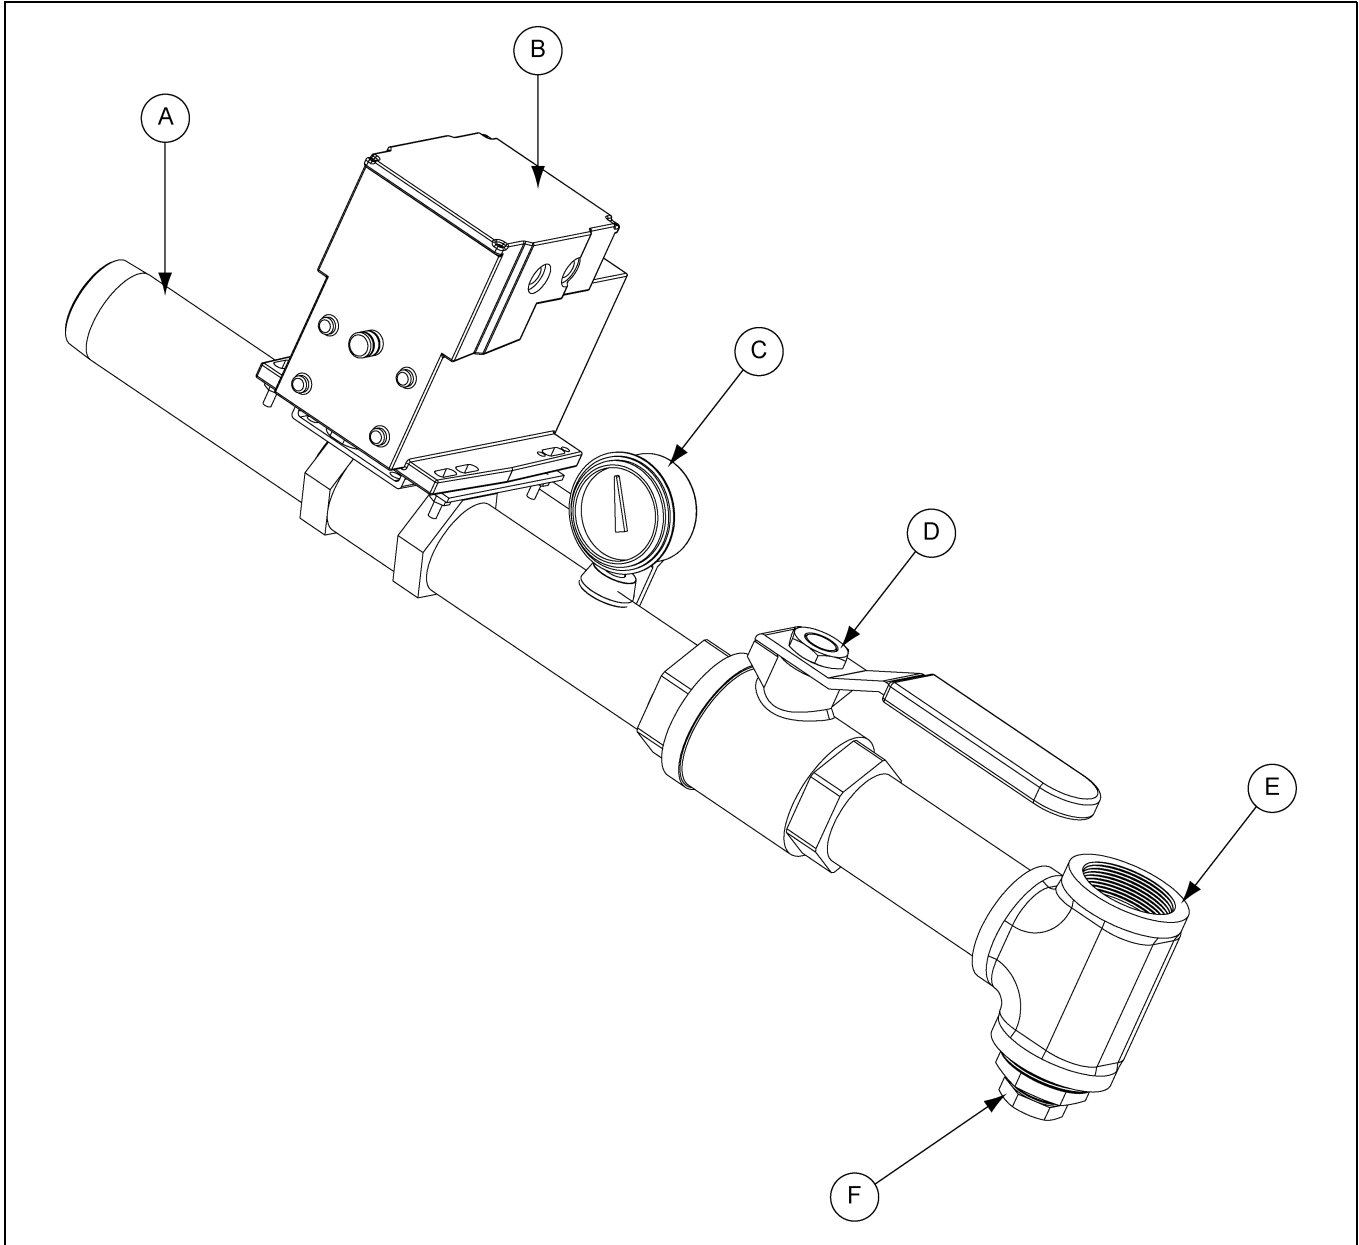

Figure 3F
6. Burner pressure with modulating valve at maximum read at burner pressure gauge. (See Figure 3F on Page 26.)
7. Burner pressure with modulating valve at minimum read at burner pressure gauge. (See Figure 3F on Page 26.)
- b. Close firing valve. (See Figure 3F on Page 26.)
- b. Close 'firing valve' on main gas line. (See Figure 3F on Page 26.)